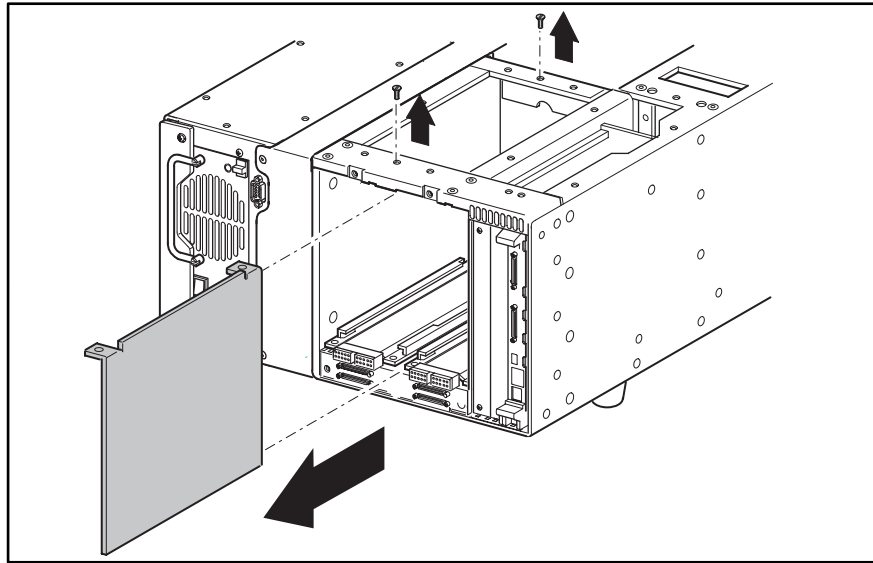

Figure 2-29: Removing the tape drive shield
7. Remove two flat-head screws that secure the tape drive shield to the library chassis (see Figure 2-29).
1. Insert the tape drive shield into the tape drive bay (see Figure 2-29).
2. Secure the tape drive shield to the library chassis using the two previously removed flat-head screws (see Figure 2-29).